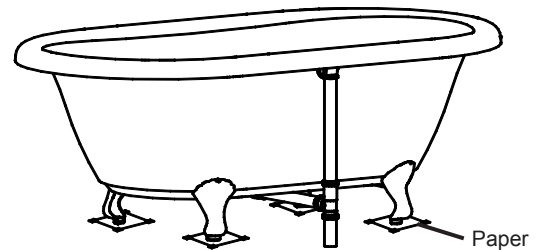

Figure 11. Bath Location for EU-95 and EV-00
2. Place the bath at the precise location that it will be permanently installed. Each ball-and-claw foot should set on one of the pieces of paper, see Figure 11.